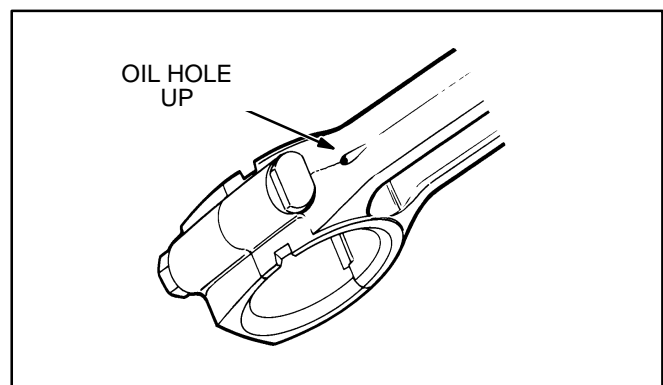

FIGURE 84. CONNECTING ROD OIL HOLE
4. Position the piston and rod assembly in the cylinder block with the connecting rod oil hole up (Figure 84).